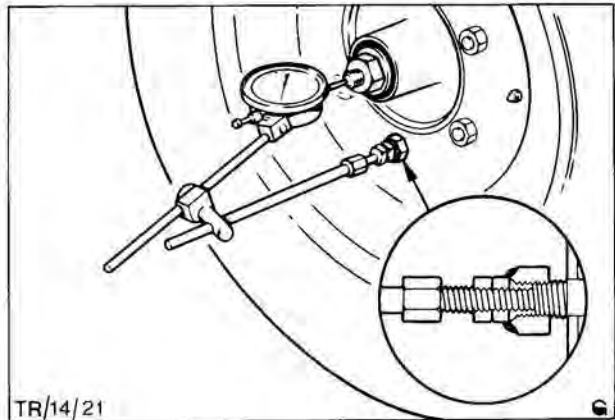

Fig. 26. Dial gauge mounted to check bearing end float
26. The end float should be checked using a dial gauge fastened by a magnetic base or simple bracket fabricated from two nuts, and with the stylus of the gauge positioned against the wheel spindle, Fig. 26.
6. The bearings must have between 0,025 to 0,13 mm (0,001 to 0,005 in) end float. This end float should be checked using a dial gauge fastened to wheel by a magnetic base or simple bracket fabricated from two nuts as shown in Fig. 26 and with the stylus of the gauge positioned against the wheel spindle. One wheel nut must be removed to fit the dial gauge using this fabricated bracket.